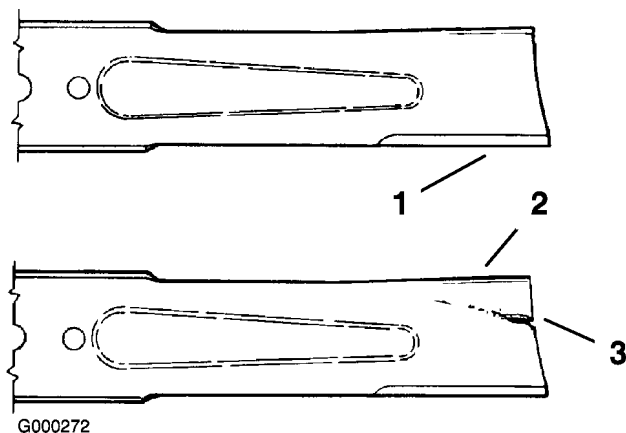

Figure 60
1. Inspect the cutting edges (Figure 60). If the edges are not sharp or have nicks, remove and sharpen the blades. Refer to Sharpening the Blades.
2. Inspect the blades, especially the curved area (Figure 60). If you notice any damage, wear, or a slot forming in this area (Figure 60), immediately install a new blade.